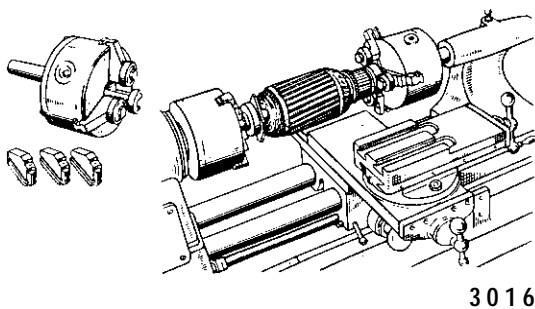

Figure 1B-6 Turning Down Commutator
2. Turn down worn or burnt commutator on a good precision lathe. Use a spindle speed between 2,000 and 3,000 RPM. See Figure 1B-6. When turning down commutator, adjust cutting depth of tool so that no more pits exist after this operation. Do not remove any more material than necessary, however, because if commutator diameter is less than 1 15/32 inches, armature must be replaced.